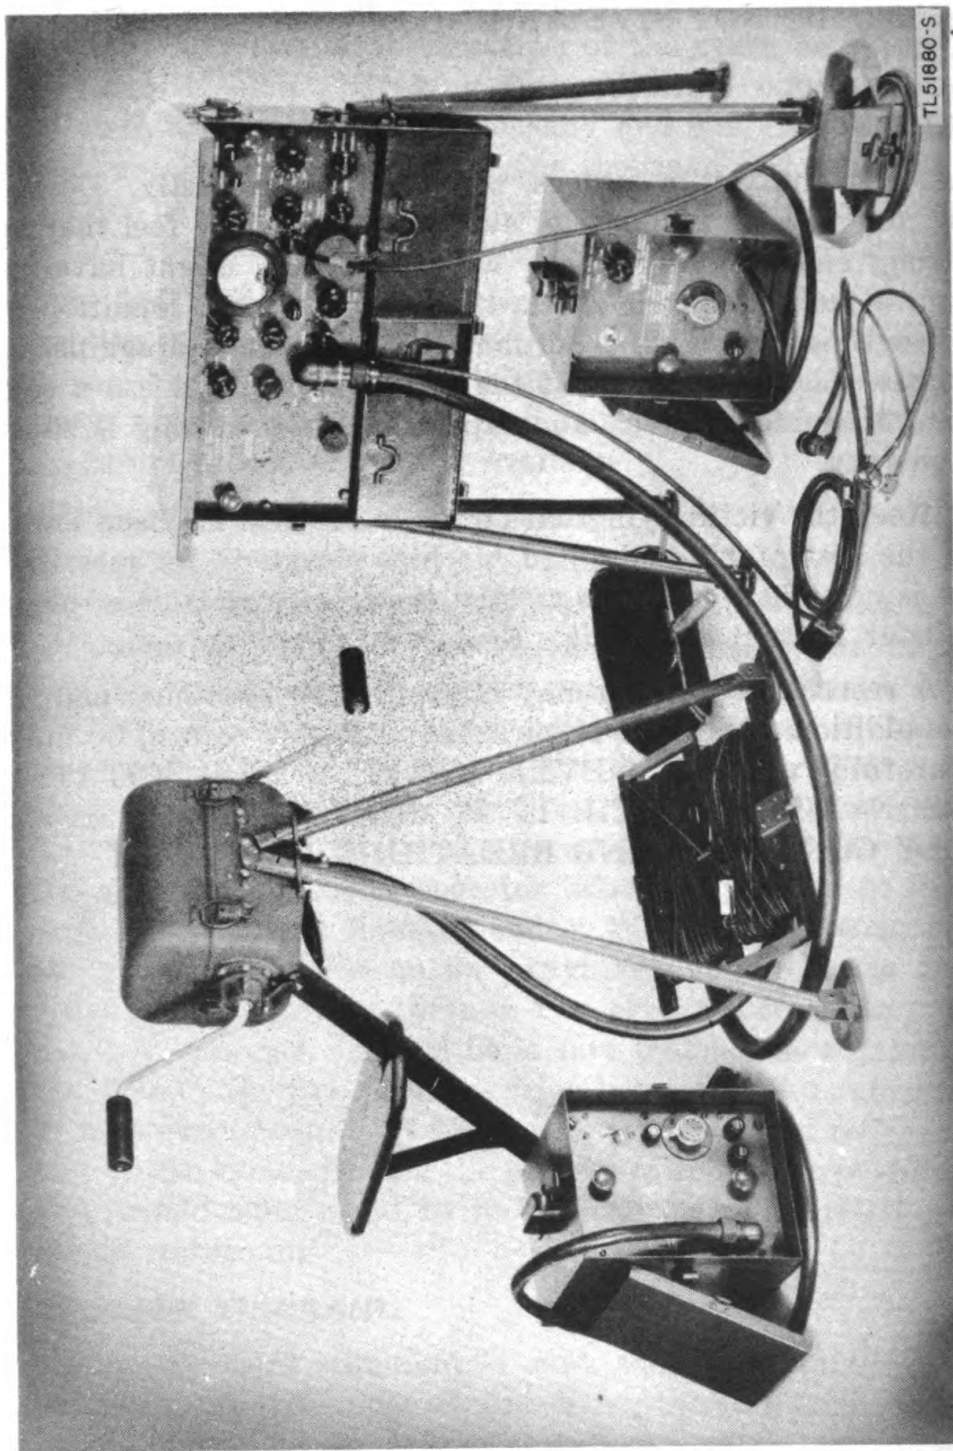

Figure 1. Radio Set AN/TRC-10.
a. Radio Set AN/TRC-10 (fig. 1) is a low-power, c-w (continuous-wave) ground transportable communications set consisting of Receiver-Transmitter RT-46/TRC-10, a rectifier power supply, a vibrator power supply, a hand generator, and a number of associated items (par. 5). The radio set is designed for general field use and is supplied with a 50-foot and a 100-foot wire antenna.